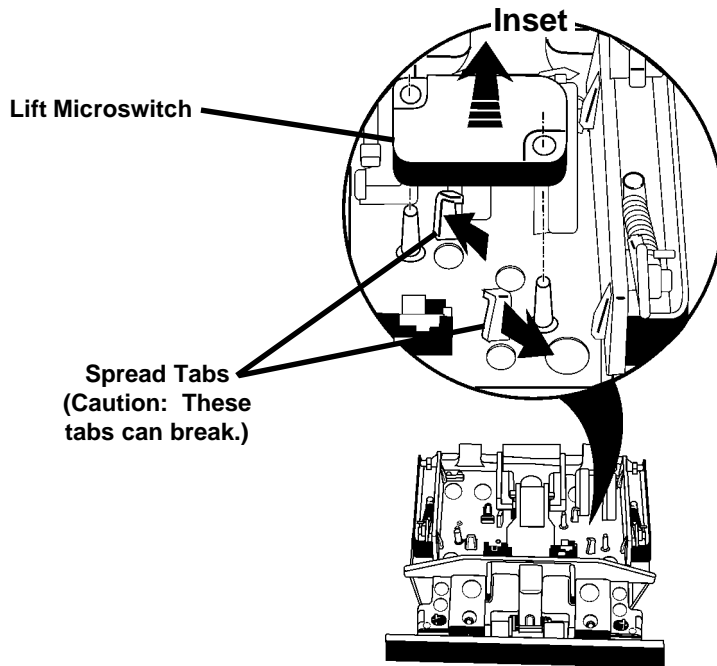

Fig. 3-5
2. Pull back on the two (2) plastic retaining tabs securing the microswitches to the door latch assembly and lift the microswitches out. (Fig. 3-5)